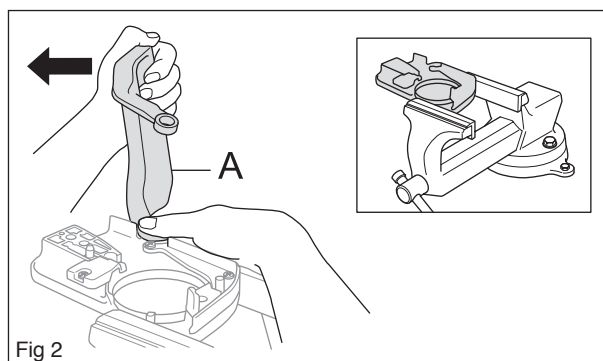

Fig 2
Carefully tighten the clutch housing in a vice. Release the brake by using the saw's front hand guard (A) as a tool. Mesh with the brake and tighten anti-clockwise until the brake is activated. (see figure 2)